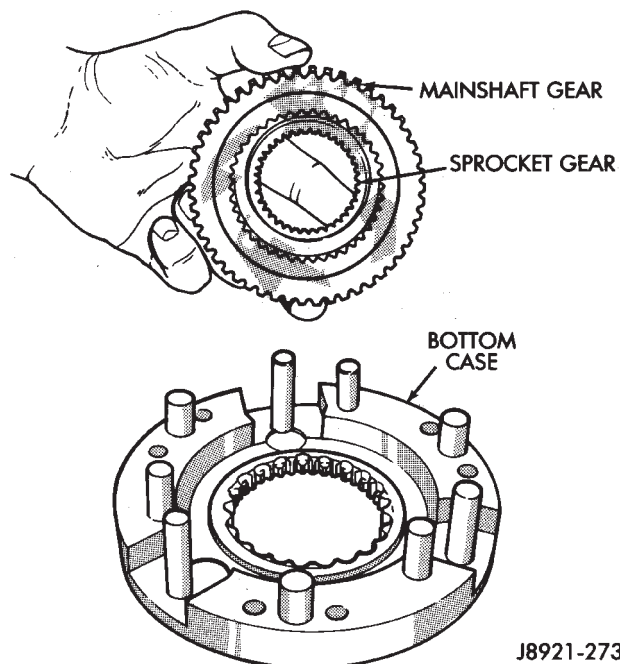

Fig. 36 Removing Mainshaft And Sprocket Gears
(52) Remove mainshaft and sprocket gears from bottom case (Fig. 36). Note gear position for reference before separating them.